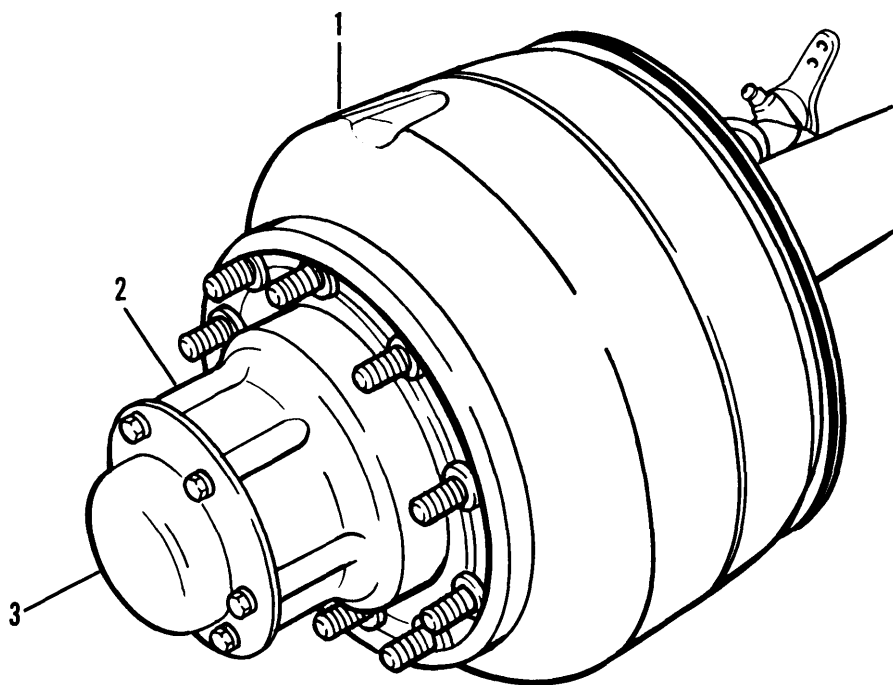

Figure 4-41. Hub and Brake Drum
- b. Brake Drums. The brake drum (1, fig. 4-41) is attached to the hub (2) with ten nuts and studs. A hub cap (3) and gasket, fastened by six screws and washers of the center of the hub, excludes moisture and dirt.